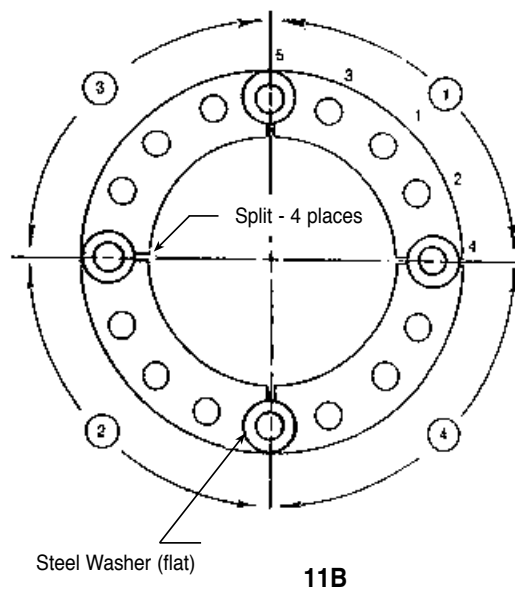

Figure 11
- Bolting Sequence** - Garlock expansion joints are supplied with segmented retaining rings. Bolting of the retaining rings and torquing of the bolts in each ring segment should be in the sequence illustrated in Figure 11. The objective is to bolt the entire retaining ring segment evenly and to compress the rubber flanges as uniformly as possible. The use of flat steel washers will help obtain an effective seal where the retaining rings are split.